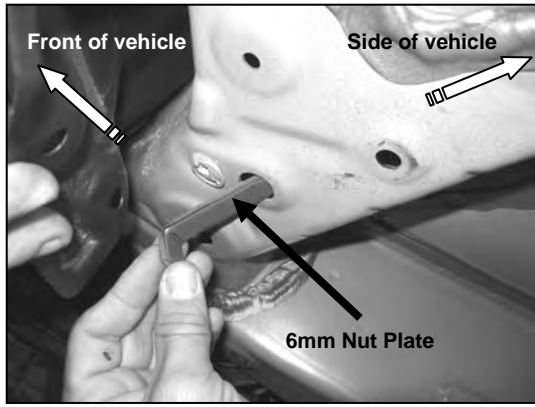

Fig 4
6. There are four factory holes in the cross frame rail, two holes front to back and two perpendicular. Insert (1) 6mm Nut Plate into the outer perpendicular hole (larger) and orient it to the rear front to back hole (**Figure 4**).